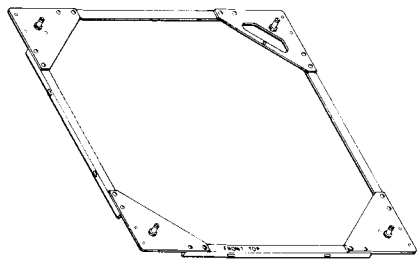

Fig. 10—KS-19425, List 10 Foundation Template
3.03 When necessary to provide a concrete base, a KS-19425, List 10 foundation template (Fig. 10) is used. Install the template as follows: